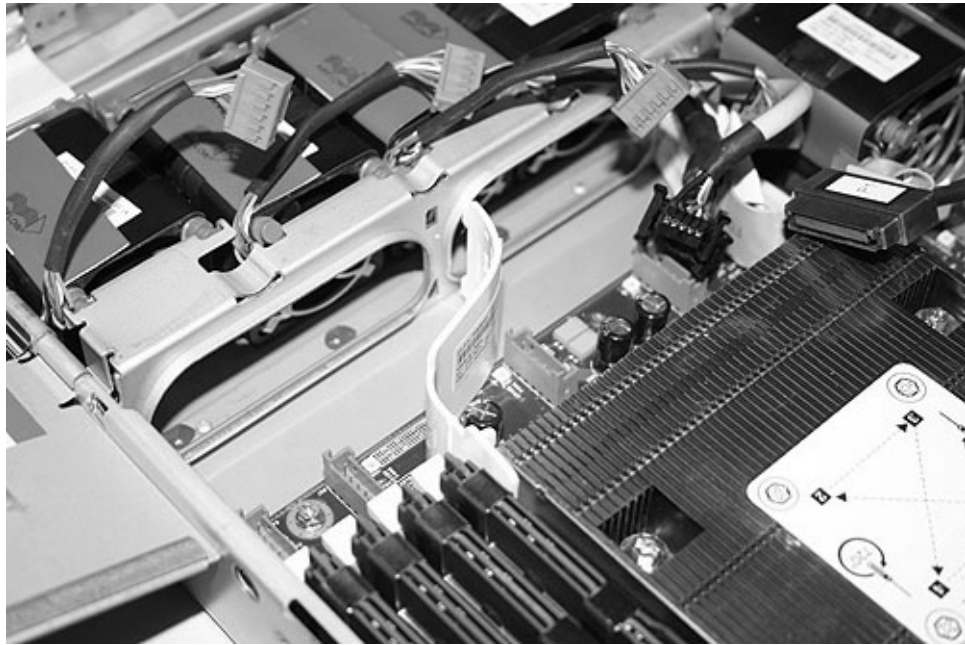

Figure 249. Right air baffle on the SAN Volume Controller 2145-8G4 system board
9. Replace the right air baffle, which is shown in Figure 249 on page 576.